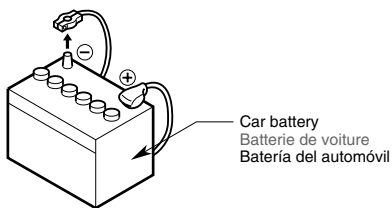

Figure 1 / Figure 1 / Figura 1
- Be sure to disconnect the battery "⊖" terminal before starting. This is to prevent short circuits during installation. (Figure 1)
- S'assurer de débrancher la borne "⊖" de la batterie avant de commencer. Cela évitera les court-circuits pendant l'installation. (Figure 1)